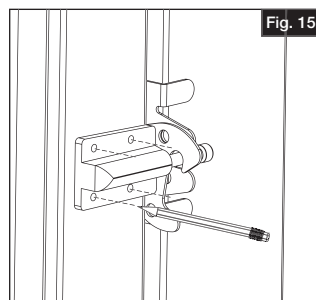

Fig. 15
- Mark pilot holes through the screw holes (Fig. 15).